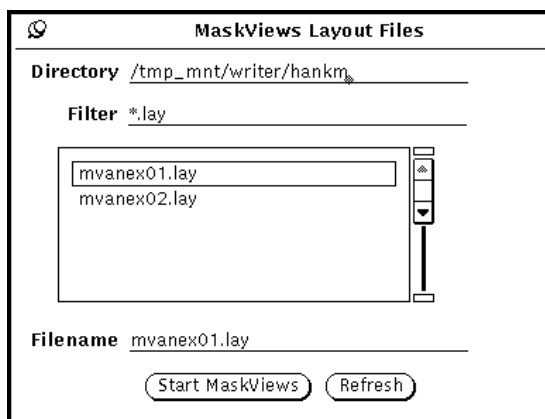
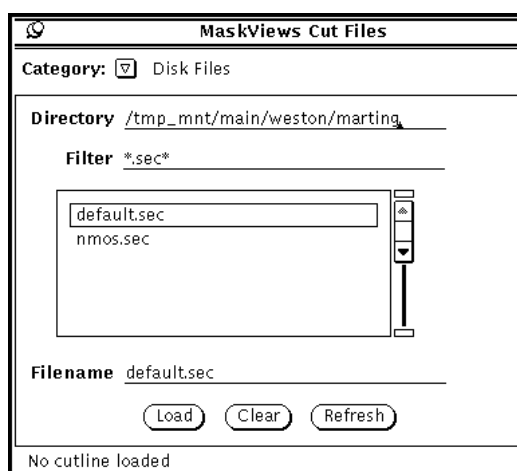

Figure 3-16: MaskViews Layout Files Popup
Figure 3-17: MaskViews Cuts Files - Disk Files Category
DECKBUILD allows you to bring up MASKVIEWS with an optional layout file. To choose the layout file, select **Start MaskViews...** from the MASKVIEWS pull-right menu. The MASKVIEWS **Layout Files** popup appears (Figure 3-16). This contains a scrolling list of layout files in the current directory and text fields to search for layout files. Find and select the layout file of choice, then click on the **Start MaskViews** button on the popup (Figure 3-17). After a few moments, MASKVIEWS appears with the specified layout file loaded. If you did not choose a layout file, MASKVIEWS starts with no layout file loaded.
2. Bring up the **MaskViews Cut Files** popup (Figure 3-17) and set **Category** to **Disk Files**, the default. Choose the cutline file name in the scrolling list. If the file name does not appear, you may need to change the directory and filter on the popup. Click on **Refresh** to refresh the contents of the scrolling list if a new file were just created. You can also enter the name of the file next to **Filename** and click on **Load**.